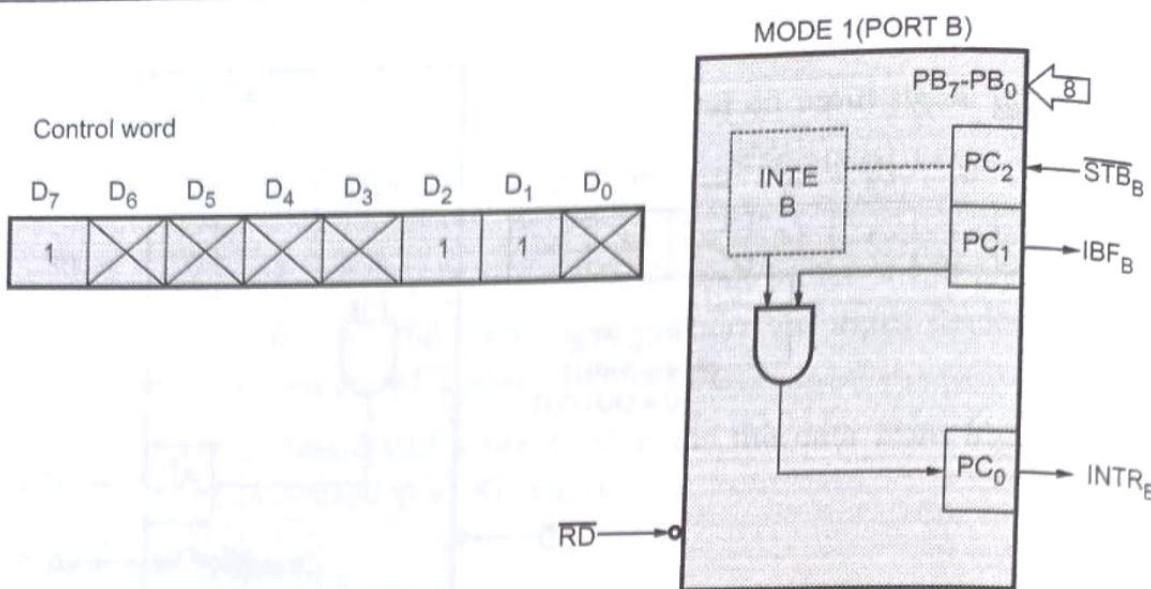

Fig. 3.4.9 Port B in mode 1
- Fig. 3.4.9 shows Port B as an input port (when in Mode 1).